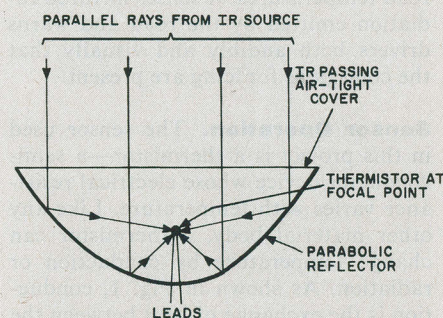

Fig. 2. A parabolic reflector focuses infrared rays onto the thermistor.
**The Sensor Head.** If a thermistor is mounted at the focal point of a parabolic reflector (a curved surface that has the property of focusing all incoming rays to a single point), and if the open end of the reflector is covered with a material that keeps air from circulating around the thermistor but allows infrared radiation to pass through, a sensor for infrared radiation is produced. This is shown in Fig. 2. Since the reflector and thermistor are not thermally insulated, the thermistor will have some response to ambient air temperature.
The reflector arrangement shown in Fig. 2 is the approach used in the IRIA project. Such a sensor is mounted to the underside of the vehicle front bumper, with the open end facing the road underneath the vehicle. The temperature of the thermistor represents a weighted average of the road and air temperatures—with the road temperature predominating. If there were a perfect vacuum surrounding the thermistor, and the thermistor leads had the absolute minimum of support, the thermistor temperature would closely approximate that of the road.